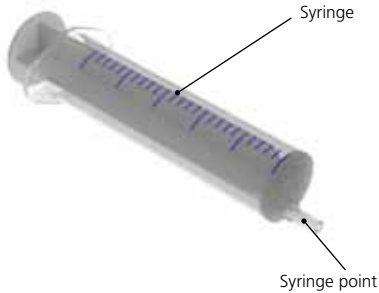

Figure 12: Syringe
3. Place the short syringe hose on the syringe point (see Figure 12).